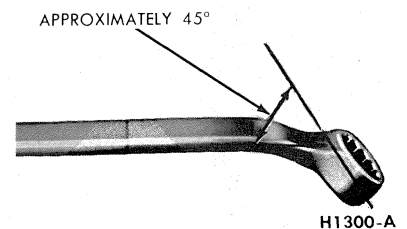

FIG. 1—Wrench for Bleeding Brake Hydraulic System
2. Position a suitable 3/8 inch box wrench (Fig. 1) on the bleeder fitting on the brake wheel cylinder. Attach a rubber drain tube to the bleeder fitting. **The end of the tube should fit snugly around the bleeder fitting.**
(Fig. 1) on the bleeder fitting on the right rear brake wheel cylinder. Attach a bleeder tube to the bleeder fitting. The end of the tube should fit snugly around the bleeder fitting.